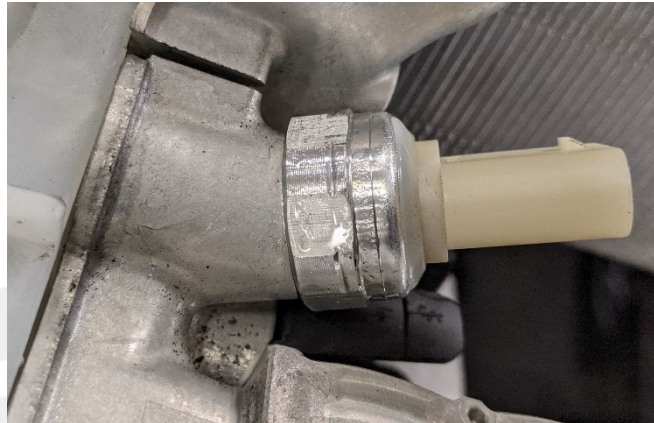

Figure 13 – P/T sensor properly seated
**NOTE:** There should be no gap, and the sensor body should be bottomed out against the Supermanifold (Figure 13).